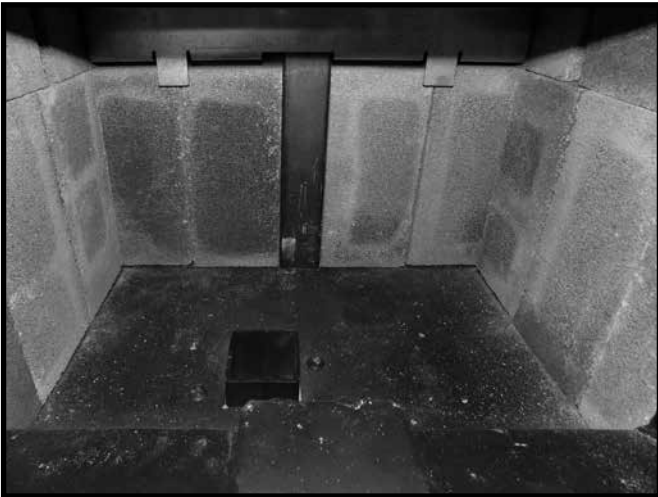

Figure 20. Firebox floor with ash dump.
7. Repeat steps 4-6 on the other side Figure 20.